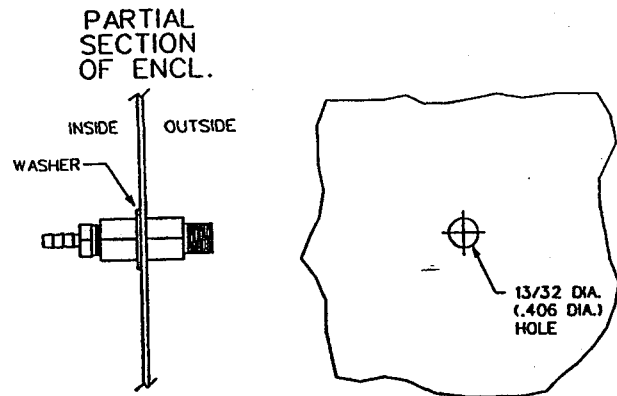

Figure 3. Installing Adapters
6. See Figure 3. Thread the hose barb adapter into the inner adapter and tighten securely. Then insert the assembled hose barb and adapter, with flat washer, through the drilled hole from inside the Drive enclosure, and thread the second adapter on from the outside. Tighten securely.